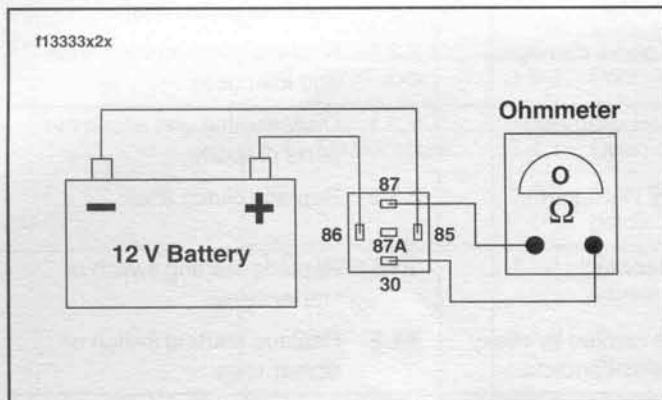

Figure 5-3. Starter Relay Test
1. See Figure 5-3. Unplug the relay connector and substitute a new relay or perform the following test.